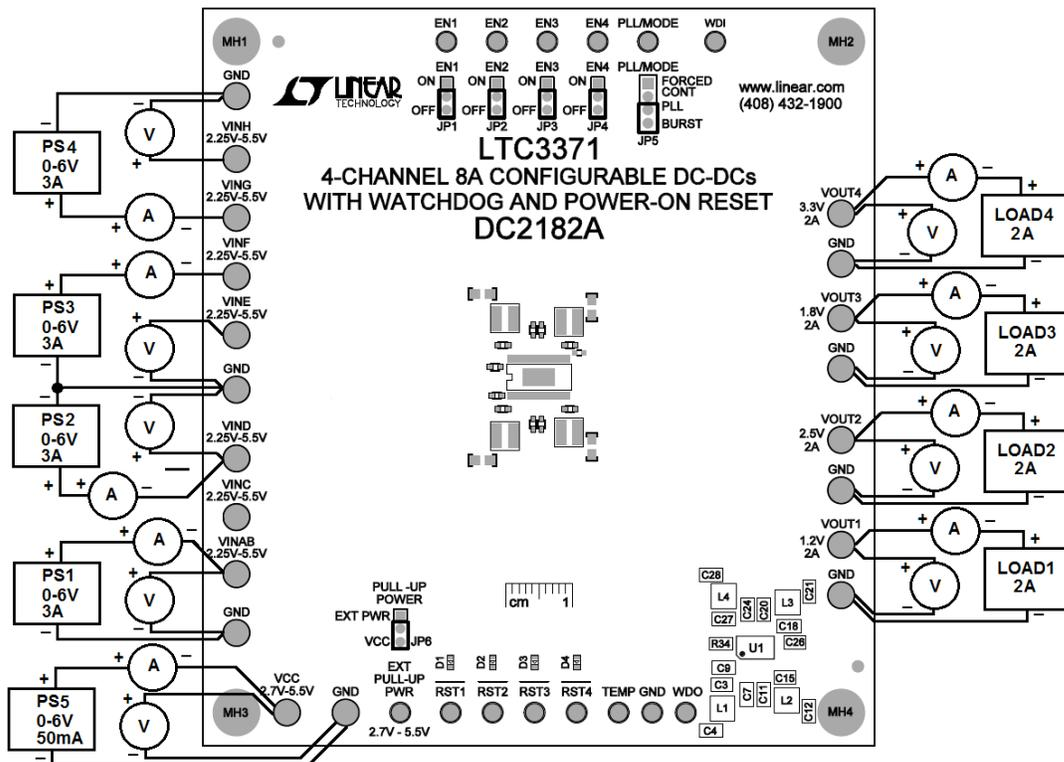
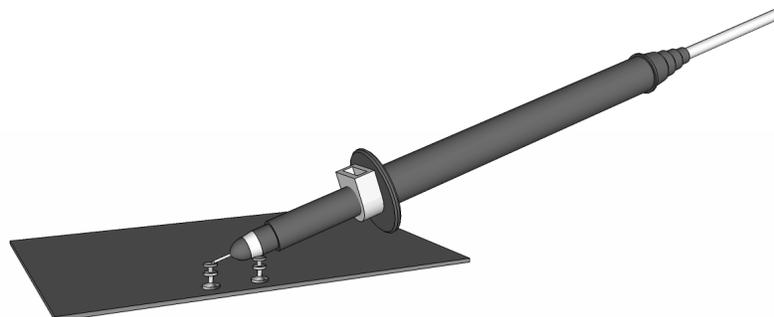

Figure 1. Proper Measurement Equipment Setup
Figure 2. Measuring Input or Output Ripple
The DC2182A is easy to set up to evaluate the performance of the LTC3371. Refer to Figure 1 and Figure 2 for proper measurement equipment setup and follow the evaluation procedure below.
NOTE. When measuring the input or output voltage ripple, care must be taken to avoid a long ground lead on the oscilloscope probe. Measure the input or output voltage ripple by touching the probe tip directly across the V_{IN} or V_{OUT} and GND terminals. See Figure 2 for proper scope probe technique.
7. With power off, connect 0V to 6V, 3A power supplies to each input pair (PS1-PS4), V_{INAB} , V_{INC}/V_{IND} , V_{INE}/V_{INF} , V_{ING}/V_{INH} and GND with a series ammeter and a voltmeter as shown in Figure 1. A single 0V to 6V, 10A supply can be used instead to supply all V_{IN} inputs and the V_{CC} input simultaneously.
9. With power off, connect a 0A to 2A load to V_{OUT1} and GND with a series ammeter and a voltmeter as shown in Figure 1.
10. Slowly increase the load from 0A to 2A and observe the output voltage. The output ripple may also be observed using an oscilloscope with the probe connected as shown in Figure 2.